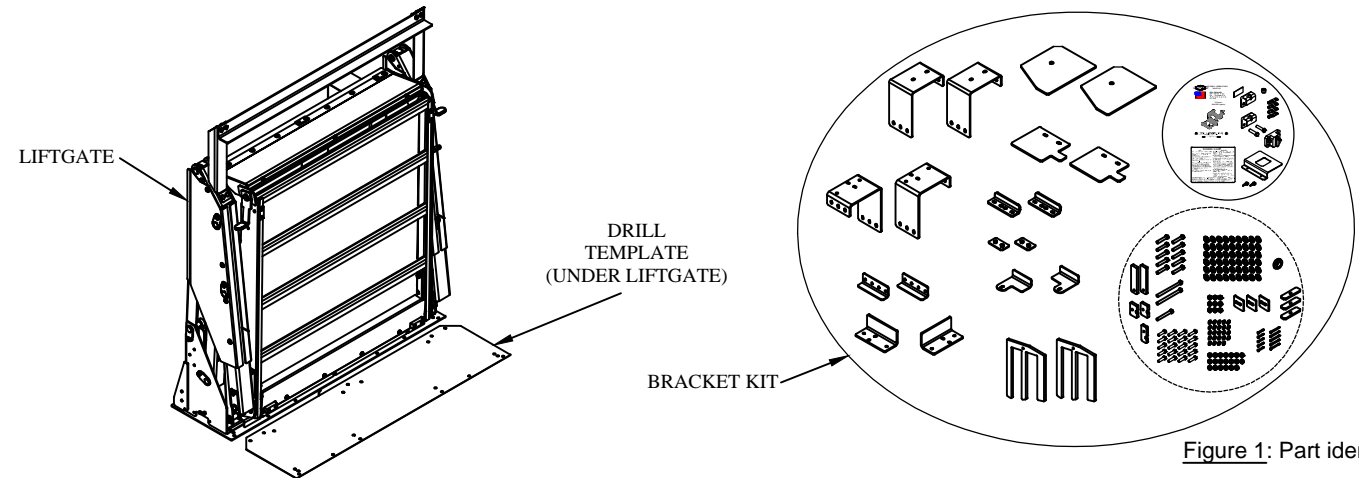

Figure 1: Part identification.
12. **Remove** the drill template from the pallet (Figure 1).